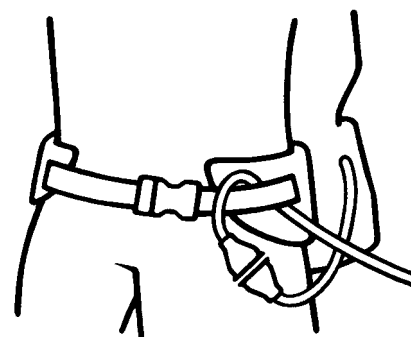

FIG. 19
8. Check the wear on the cord by the vacuum body and at the plug. Place the extension cord between the waist belt's strap and padded area to signal you if you have run out of cord while vacuuming (Figure 19).